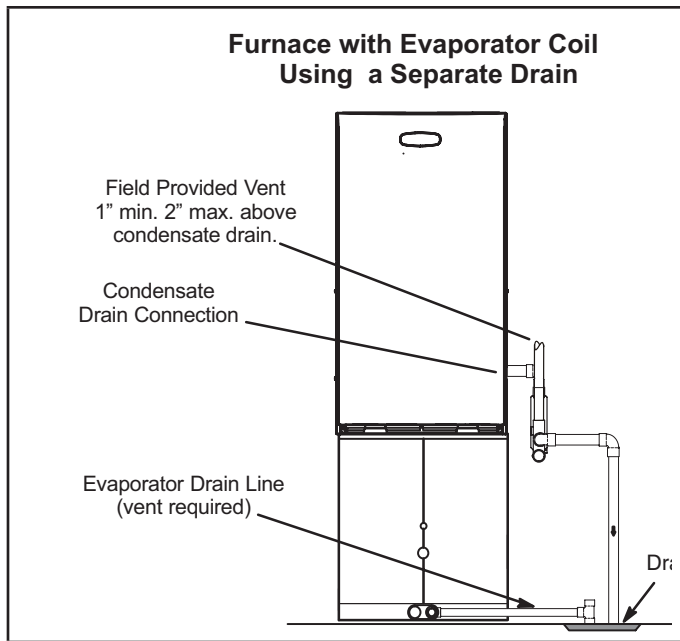
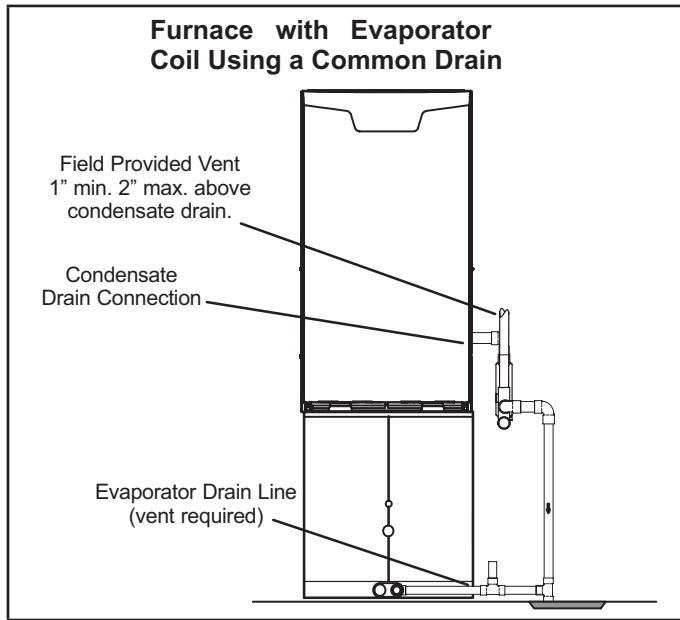

FIGURE 51
FIGURE 52
- 5 - FIGURE 51 shows the furnace and evaporator coil using a separate drain. If necessary, the condensate line from the furnace and evaporator coil can drain together. See FIGURE 52 and FIGURE 53. The field provided vent must be a minimum 1" to a maximum 2" length above the condensate drain outlet connection.